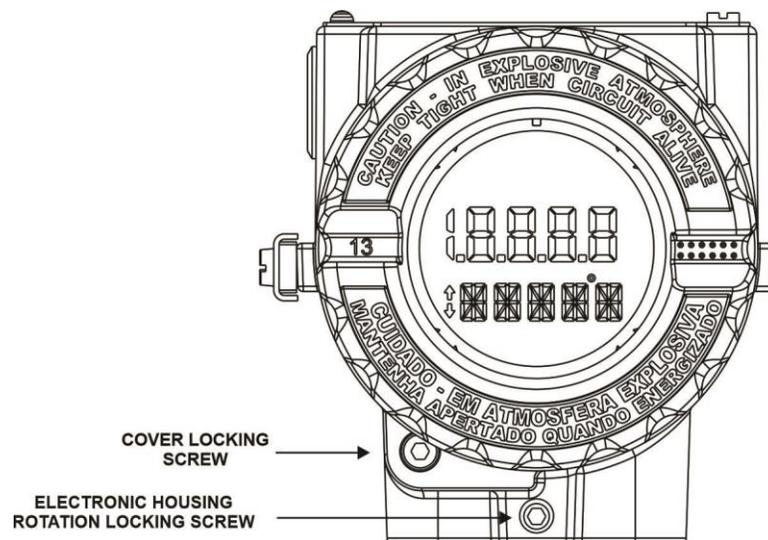

Figure 1.25– Electronic housing rotation locking screw
1. Loosen the rotation locking screw. See figure 1.25